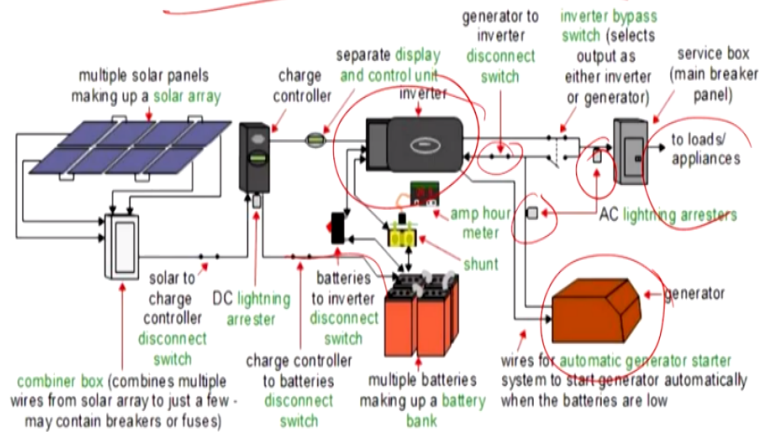

Fig.2: Structure of independent PV power system
- The independent PV power system is implemented with energy storage (ES) to supply the load in case of lack of PV power generation.
- As shown in Fig.2 an independent PV power system consisting of solar array, DC combiner box, charger controller, battery, off-grid inverter, and AC distribution (service box).
As shown in figure 2, an independent PV power system consisting of solar array, DC combiner box, charge controller, battery, off-grid inverter, and AC distributor services will be the part of the system.